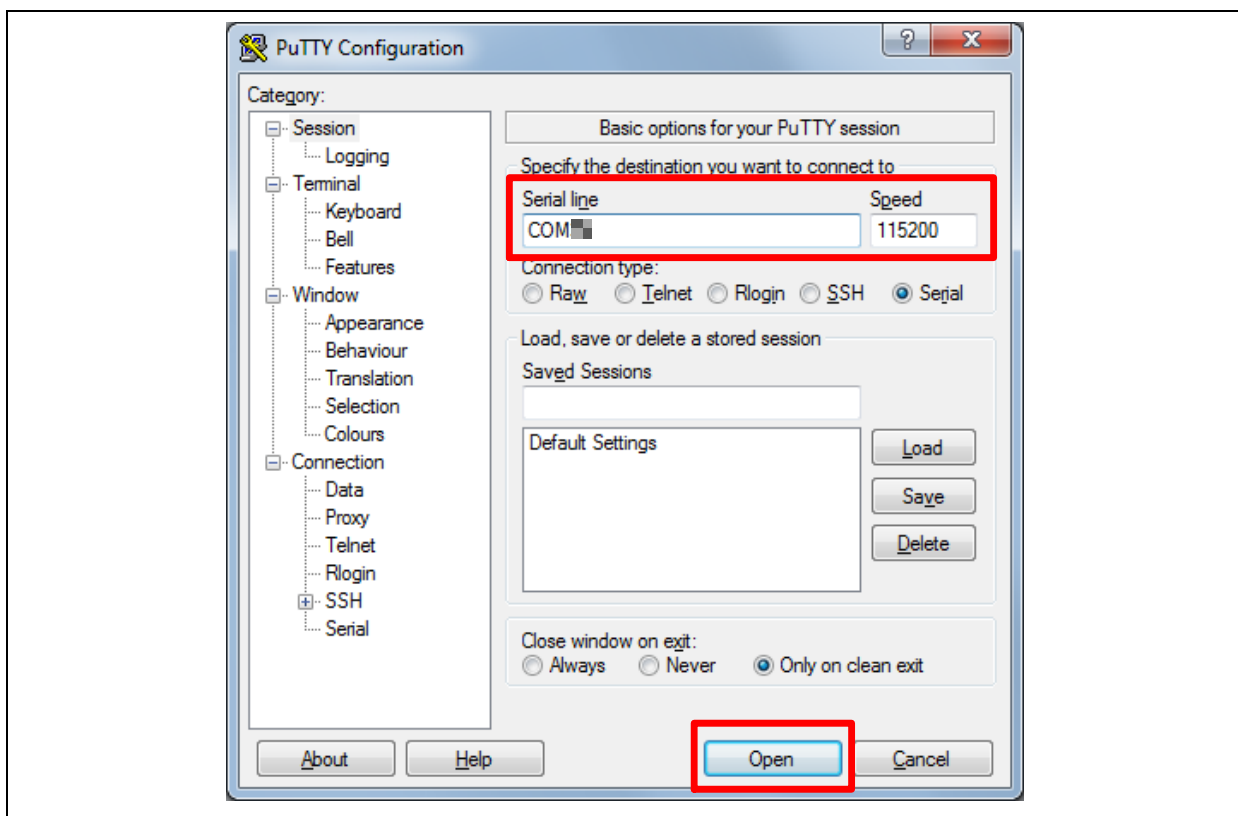

Figure 5-16 PuTTY Session Setting
5. Open a serial port terminal, PuTTY for example, to print out debug message. Set the speed to 115200. Figure 5-16 presents the PuTTY session setting.